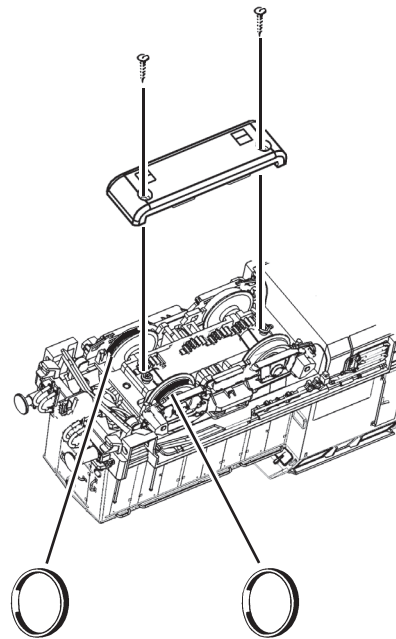

Fig. 3
2. Lubrication: Apply **tiny oil drops** to spots marked in fig. 7. Prior to lubrication dismantle locomotive (fig. 3). We recommend using item no. **10906, Roco oiler**. For lubrication the gearparts (e.g. cogwheels, worm) we should recommend our Roco **special grease** (item no. **10905**).
4. Motor Changing: First remove loco body (fig. 3), and then the motor (fig. 8).
4. Remplacement du moteur: Démontez la caisse (voir fig. 3). Démontez ensuite le moteur (fig. 7).
voir } Fig.3